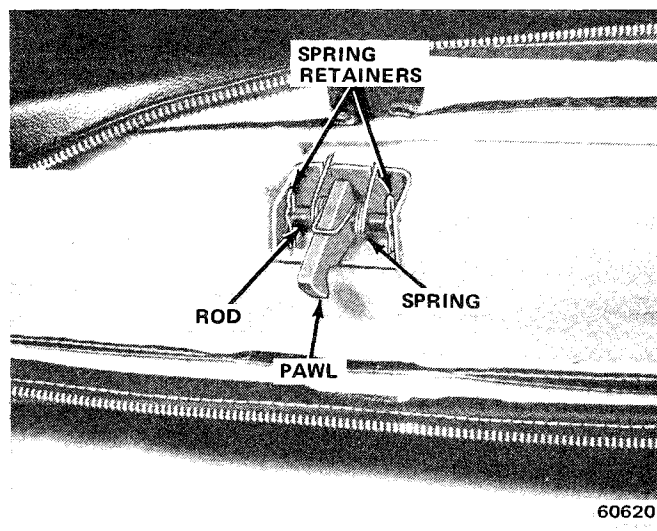

Fig. 3M-3 Tilt Lock Pawl Assembly
- (1) Remove forward tilting seat back.
- (2) Remove screw attaching release handle-to-latching rod using Torx Bit Tool J-25359-02. Remove handle.
- (3) Remove screws attaching plastic bumpers using Torx Bit Tool J-25359-02. Remove bumpers.
- (4) Unzip upholstery and pull back.
- (5) Remove spring retainers attaching latching rod (fig. 3M-3).
- (6) Remove rod, pawl, and spring from seat.